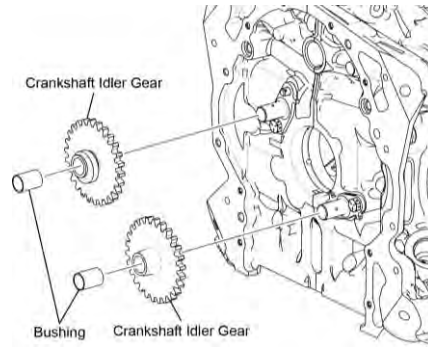

Figure 2
- (1) Remove the idler gears and bushings (Figure 2) from the idler gear shafts.
- (2) Discard the bushings.